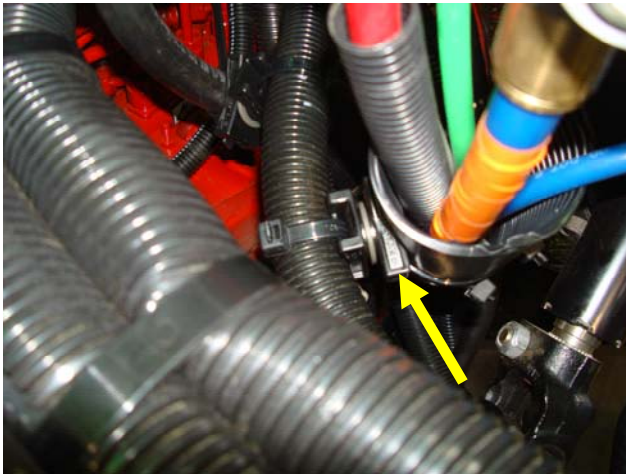

Fig. 6
8. Inspect and provide clearance between fuel line and air lines with swivel and tie straps. (Fig. 6)